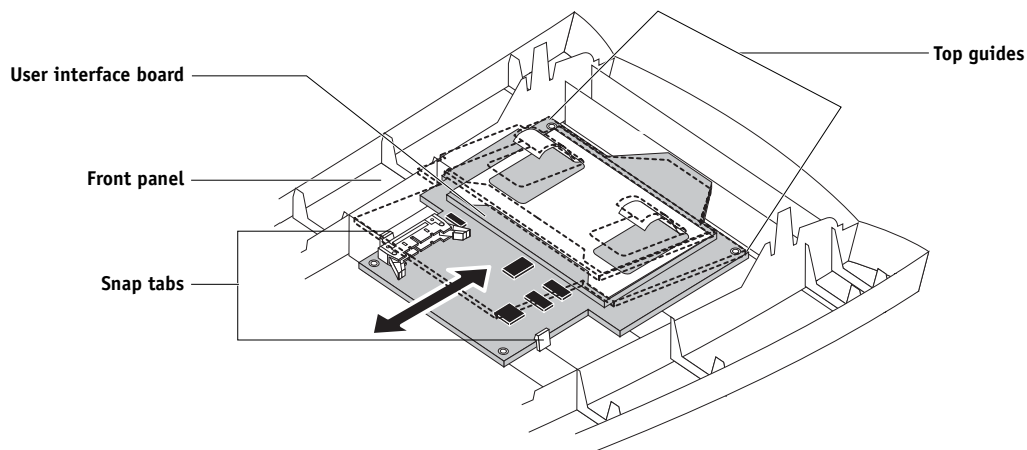

FIGURE 4-15 Removing the user interface board
5. Lift up slightly on the bottom edge of the board and slide the board out from under the top guides on the front panel (see Figure 4-15).
1. **Position the user interface board in the front panel at an angle so that the top edge of the board fits under the top guides (see Figure 4-15).**